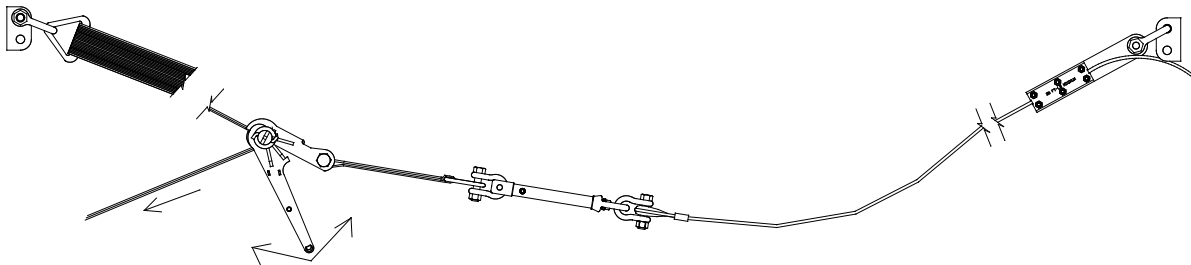

Fig. 4 Tensioning the Horizontal Lifeline
28. Begin lifting the horizontal lifeline cable assembly to its intended position (see Figure 4). If Bypass Stanchions or Brackets are being used, the cable must be placed through the center of the bypass fittings before the cable is properly tensioned. Pass the free end of the ratchet strap into the slot of the ratchet. Pull the free end of the ratchet strap to help remove slack from the lifeline cable.